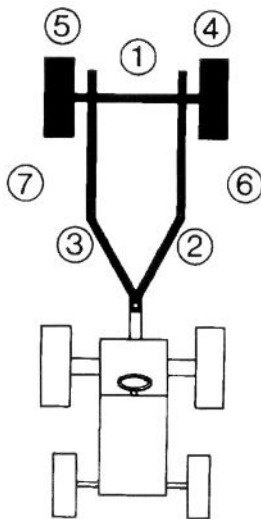

Figure 19
3. Push the control levers downward to lower the mowers with frame in motion to eliminate possibility of spinning tractor drive wheels on the turf causing turf damage. Use the diagram on top of control panel as a guide to lowering mowers (Fig. 19).